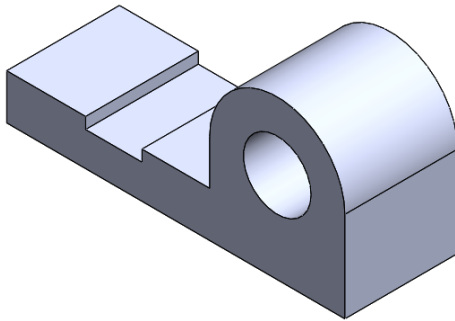
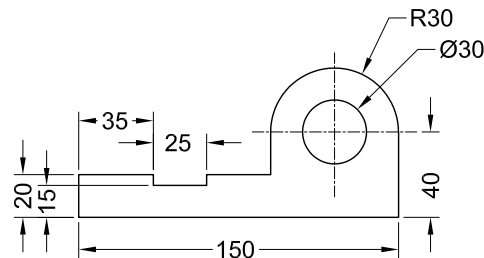

Figure 2-64 Solid model for Tutorial 3
Figure 2-65 Sketch for Tutorial 3
In this tutorial, you will draw the basic sketch of the model shown in Figure 2-64. The sketch to be drawn is shown in Figure 2-65. Do not dimension the sketch as the solid model and its dimensions are given for your reference only. **(Expected time: 30 min)**
- e. Draw the inner circle using the **Circle** tool, refer to Figure 2-65.
It is evident from Figure 2-65 that the sketch consists of an outer loop and an inner circle. Therefore, this sketch will be drawn using the **Line** and **Circle** tools. You will start drawing from the lower left corner of the sketch. As the length of the lower horizontal line is 150 mm, you need to modify the drawing display area such that the drawing area in the first quadrant is increased. This can be done by using the **Pan** tool.